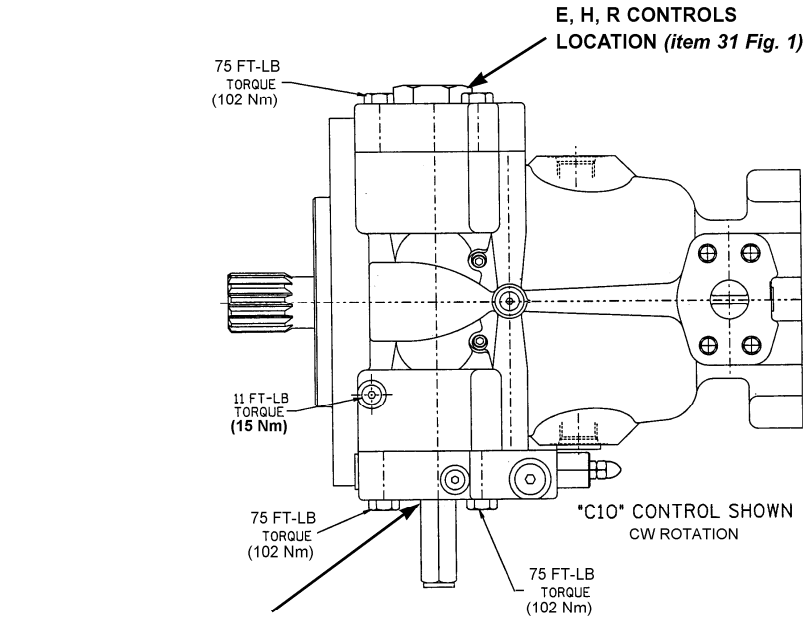

Figure 4
Install control cap assemblies (50) and (31). The control caps must be positioned on the housing for either CW or CCW pump rotation. See figures 4 & 5 for correct orientation. The control piston (44) was assembled previously for the correct pump rotation. Install eight hex head cap screws (35) into caps and torque to housing with 75 lbs-ft., 102 Nm.